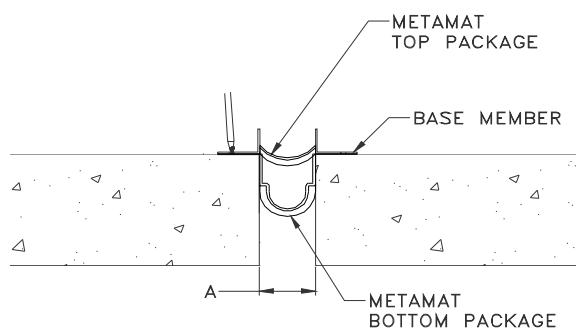

Figure 3
STEP 3. Select the joint cover system base members. Place the base members into their installed position over the MetaMat fire barrier's flanges. Using the joint cover system base members as a template, mark the locations for the anchor holes on the fire barrier flanges (Figure 3). Anchor spacing is 20" o.c. with anchors a maximum of 3" from each end of each base member.